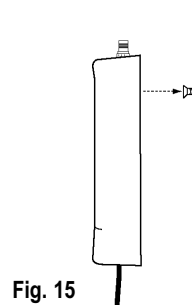

Fig. 15
- 5) Align the mounting holes on the Phonecell with the two wall-mounted screws. Then, mount the Phonecell onto the screws and slide it downward until the screw heads lock into the mounting holes and the unit is secure—see **Figure 15**.